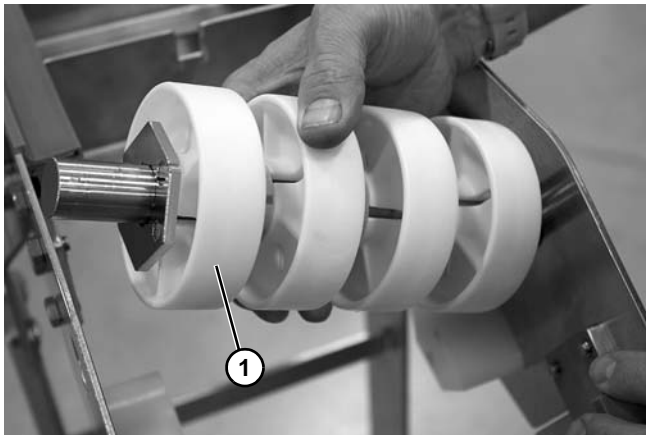

Figure 77
3. Remove upper shaft assembly (Figure 77, item 1).